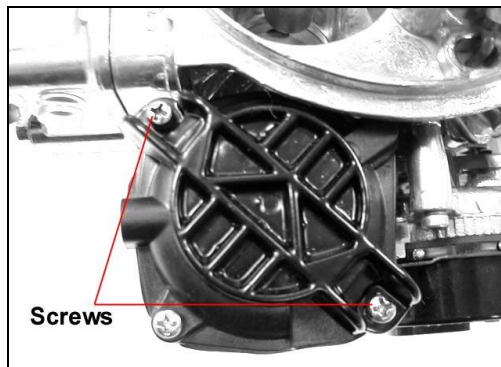

Figure 10
8. Tighten the two Phillips screws securely and reinstall the flame arrestor, as shown in **Figure 10**.